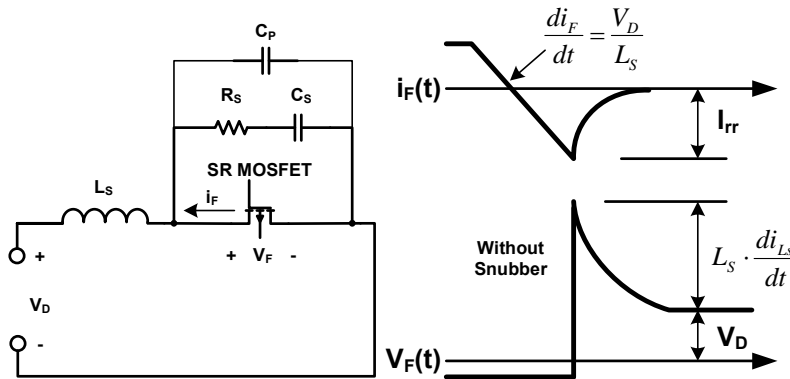
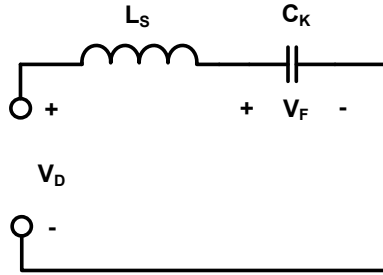

Figure 10 — RC Snubber on SR MOSFET of Flyback Secondary Side
Figure 11 — Simplified Equivalent Circuit for RC Snubber Network ($R_S=0$)
Generally, we need a simple RC snubber network putting in parallel to the drain-source of the SR FET, which is responsible for damping the voltage overshoot lead by reverse current through the SR FET, see figure 10.
Figure 10 shows the equivalent model of the Flyback secondary side circuit with an RC snubber on SR FET, where V_D implies the secondary side voltage derived in equation (3), V_F is the drain-source voltage on SR FET, R_S and C_S forms the RC snubber network while L_S is the leakage inductance of the transformer secondary winding, C_P implies the stray capacitance of the secondary side circuit.
In order to simplify the analysis model of C_S impact on $V_F(t)$, consider R_S as a constant 0, we can get figure 11 and equation (4) as following, where C_K implies “ C_S+C_P ” in figure 10.
Where I_{rr} is the peak reverse current through the SR MOSFET, which can be also find in figure 10. From (4), the drain-source voltage through the SR MOSFET V_F is as follows: